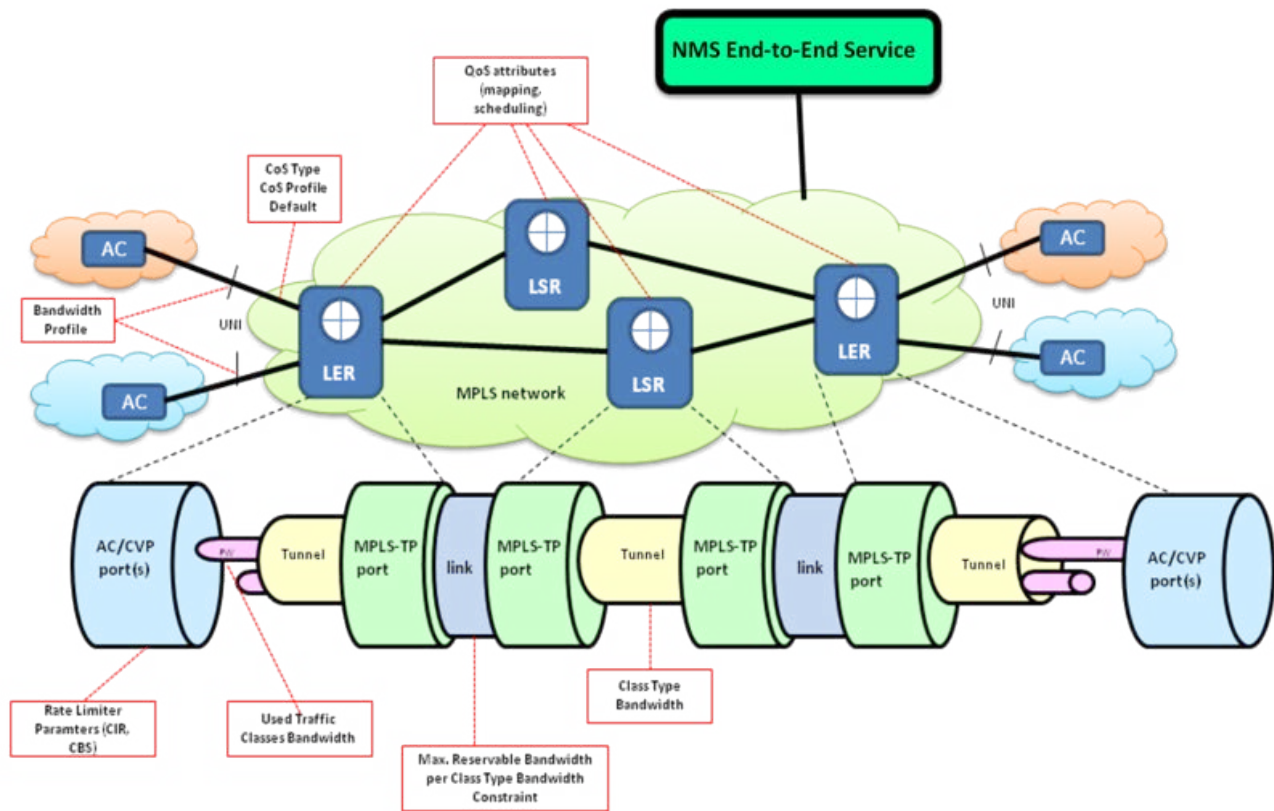

Figure 4: NMS End-to-end Service View
- AC VLAN Based, Add PW (figure 4),